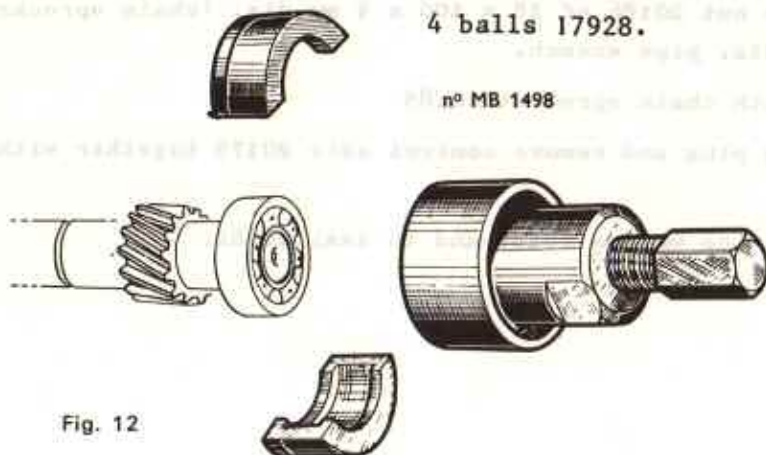

Fig. 12
- Extract roller bearing 18632 (12x28x8) left on the primary shaft, using shell extractor MB 1498 of 28 mm (Fig. 12).